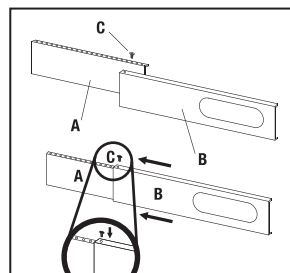
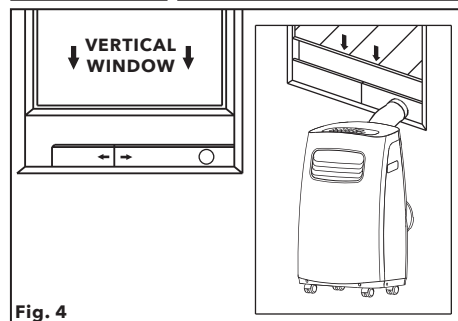

Fig. 3
Fig. 4
3. Slide panel A into B (Fig. 3) and size to window width (Fig. 4 & 5).
4. Lock the panels using the included locking pin (C).